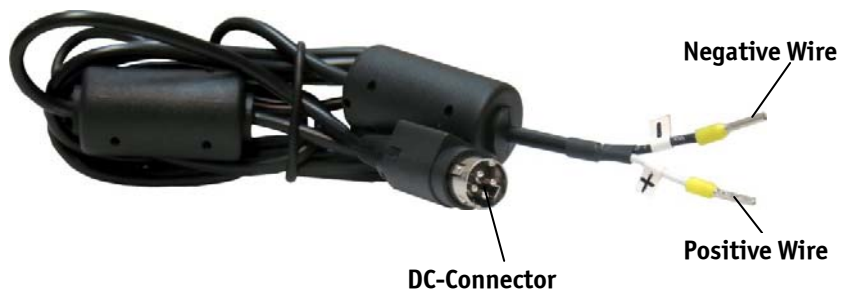

Fig. 19: DC power cable
3. Connect the other end of the DC power cord to the connections of the 24V DC main power source. Pay attention to the polarity of the connections. The wires (positive and negative) of the DC power cord are marked plus (+) and minus (-) signs (refer to Fig. 19).